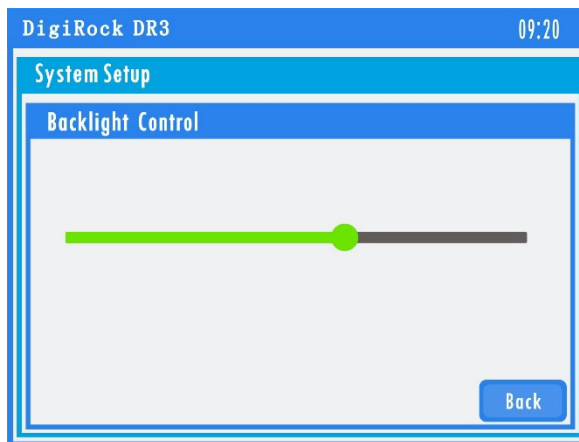

Fig 5-7 Backlight Setup
- **Backlight Setup:** Click backlight to enter interface, drag dot to update backlight (Fig 5-7).